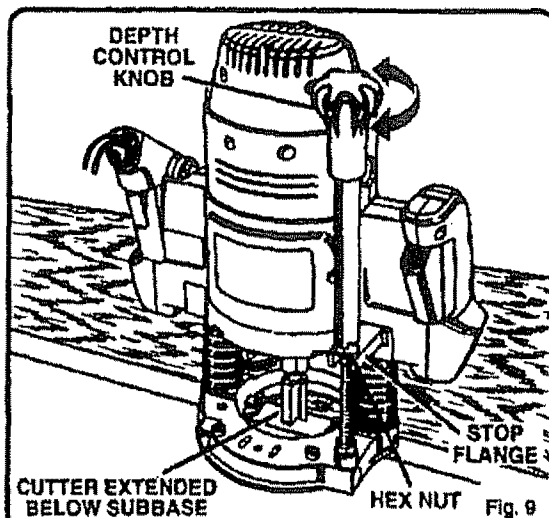

Fig. 9
13. Grasp handles and lower router until stop bar contacts stop screw. Squeeze plunge lock actuator, locking cutter at desired depth of cut. See Figure 9.
See Figure 9.